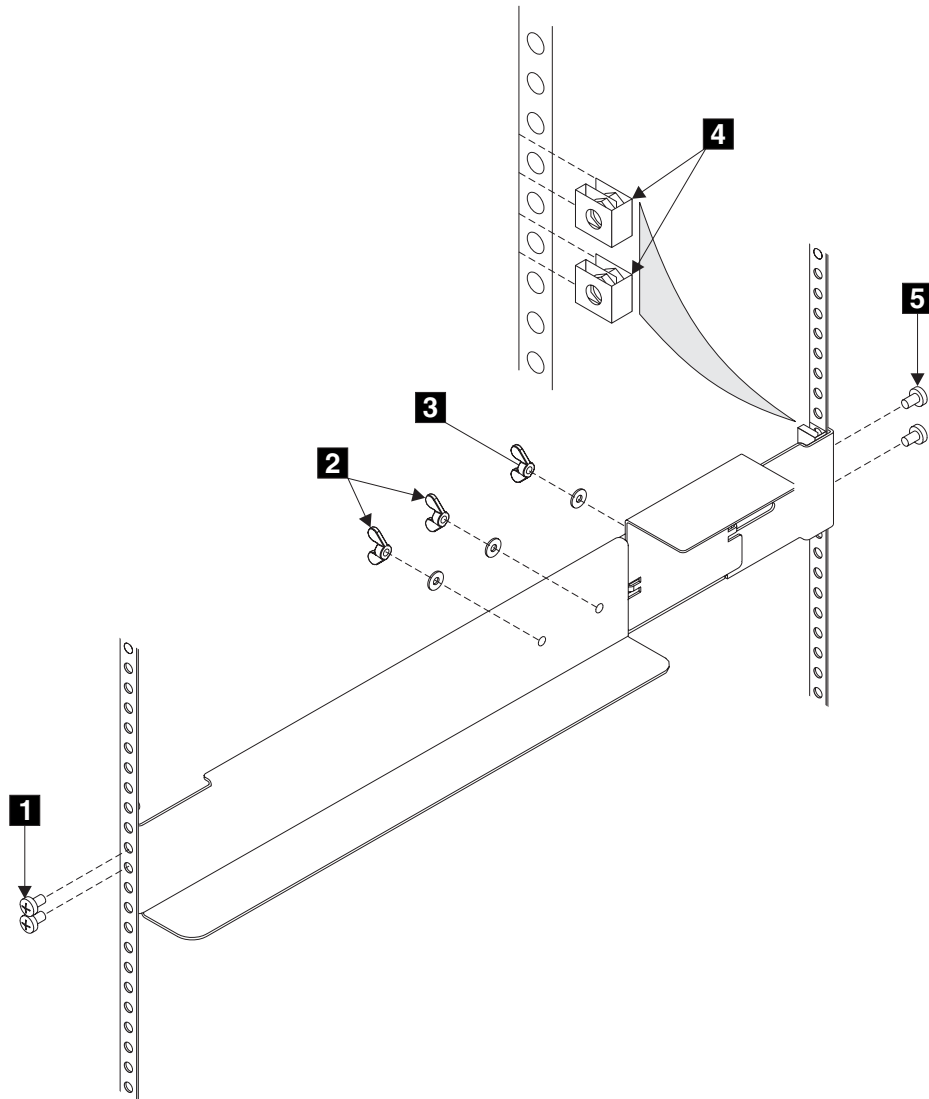

Figure 163. Removing support rails for a 2145 UPS from the rack
2. Loosen the two adjustment wing nuts **2** (Figure 163 on page 322).